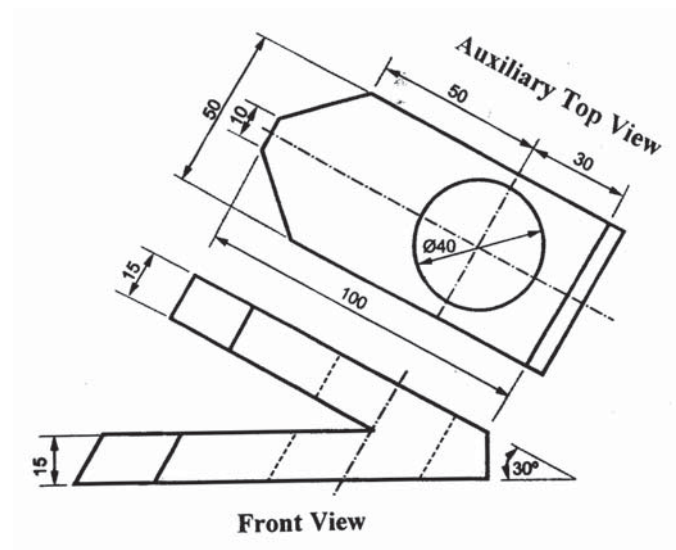

Fig. 4
6. Fig. 4 shows Front view, Auxiliary Top View of an object.